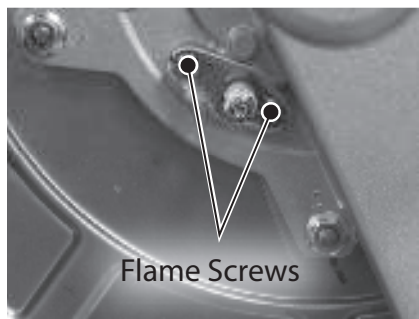

Figure 74 - Remove flame sensor screws
- 6** Use a Phillips screwdriver to remove the two (2) screws securing flame sensor to the burner assembly as shown in Figure 74. Place screws aside in a safe place for reinstallation.